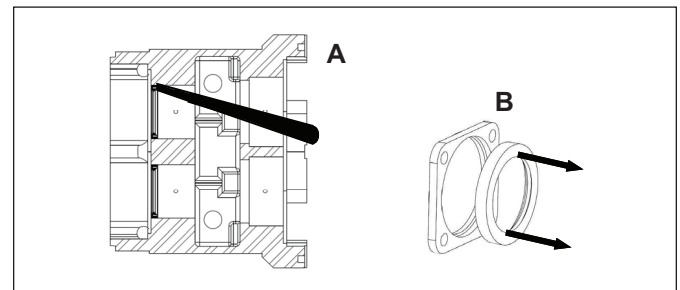

Figure 47. Removing Oil Seals
5. Remove all the shaft shims from the gear case and label which shaft and bore they came from. If the shafts are to be reused, they will need to be reinstalled with the original shims. Failure to do so could result in damage and misalignment in the pump body. Remove and discard the rear oil seals from the back of the gear case. Use a long, non-metallic rod and a soft mallet to punch the seal out from the front side (Figure 47, A). Remove and discard the front bearing seals from the bearing retainers by pressing them out (Figure 47, B). Clean the bearing retainers as they will be reused. Clean excess grease and sludge inside of the gear case before reassembling.